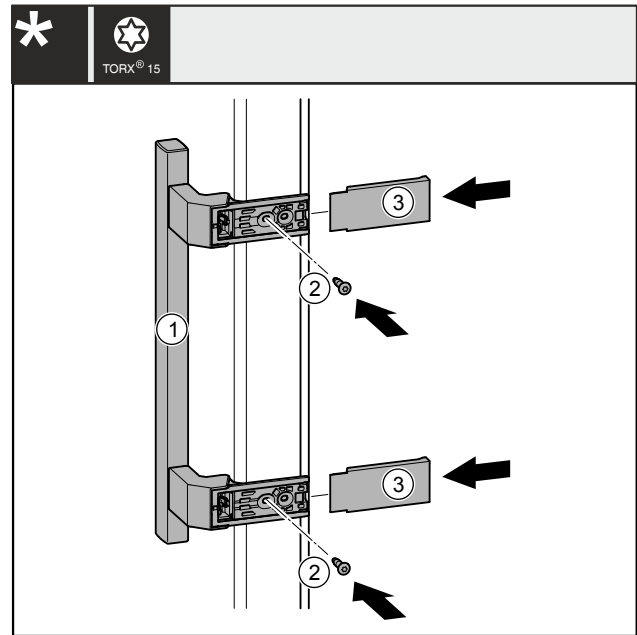

Fig. 32
- ▶ Attach the handle on Fig. 32 (1) the opposite side.
- ▶ Tighten the screws Fig. 32 (2) with the screwdriver.
- ▶ Attach the covers Fig. 32 (3) on the sides and slide them on so that they snap in.